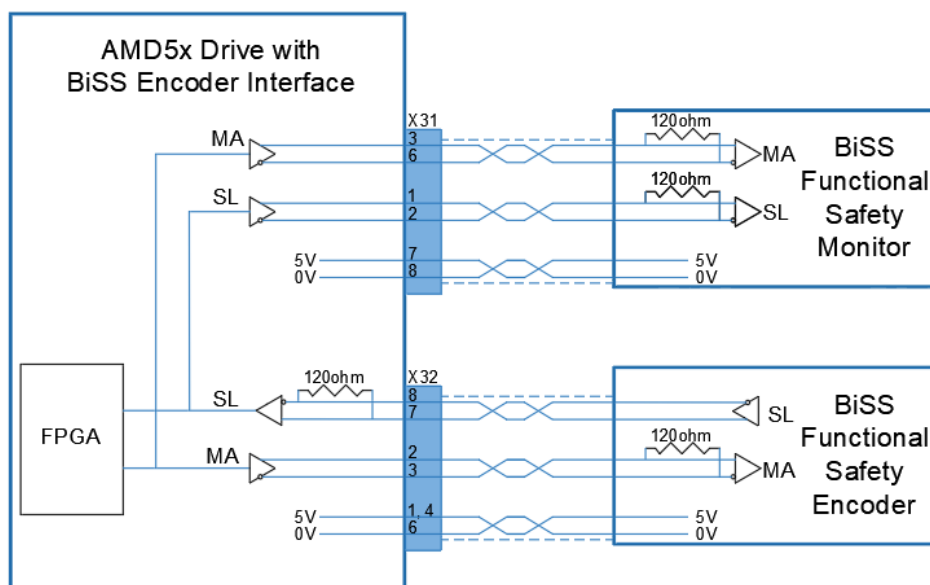

Figure 6-3: AMD5x Drive BiSS RS-422 connections
Figure 6-3 shows the hardware interface for both the BiSS encoder and BiSS Functional Safety Monitor that is a RS-422 point to point system with 120ohm termination resistors. The use of two separate RS-422 systems eliminates the need for modifying termination resistors if the BiSS Functional Safety Monitor is not connected. The BiSS Functional Safety Monitor Clock(MA) and Data(SL) signals are buffered with a maximum propagation delay of 12ns, which can be compensated in the BiSS Functional Safety Monitor.